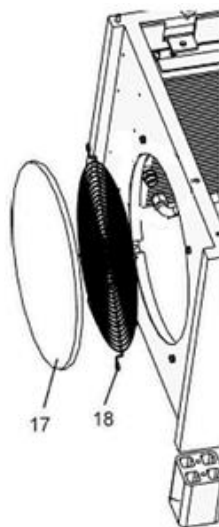

Figure 7-2 Pre-Filter Cover, Pre-Filter and Fan Grill
1. Remove the central screw and washer securing the pre-filter to the grill assembly and remove the pre-filter media (17). See Figure 7-2 for component details. Note: do not remove the fan grill.